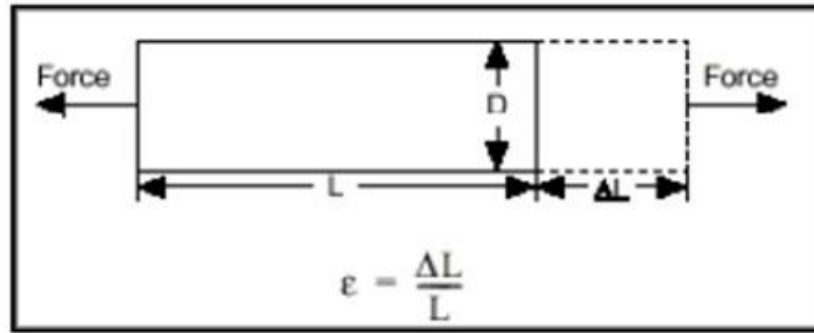
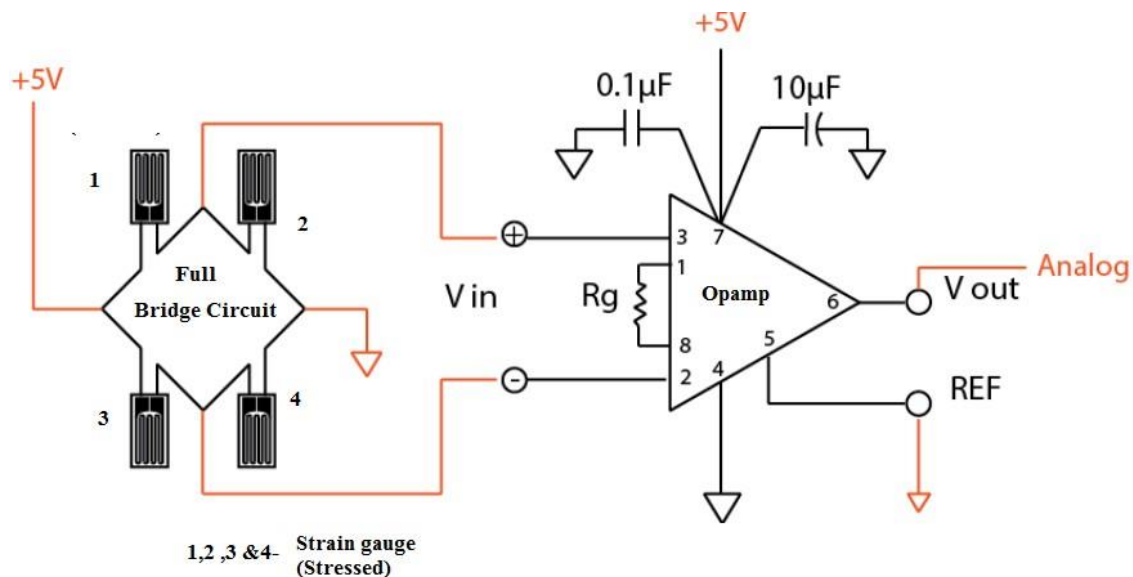

Figure 1. Strain measurement
Figure 2. Full- Bridge Strain gauge circuit
**Theory:** Strain is the amount of deformation of a body due to an applied force. More specifically, strain ( $\epsilon$ ) is defined as the fractional change in length, Strain can be positive (tensile) or negative (compressive). Although dimensionless, strain is sometimes expressed in units such as in./in. or mm/mm. In practice, the magnitude of measured strain is very small. Therefore, strain is often expressed as microstrain ( $\mu\epsilon$ ), which is  $\epsilon \times 10^{-6}$ . When a bar is strained with a uniaxial force, as in Figure 1, a phenomenon known as Poisson Strain causes the girth of the bar,  $D$ , to contract in the transverse, or perpendicular, direction. The magnitude of this transverse contraction is a material property indicated by its Poisson's Ratio. The Poisson's Ratio  $n$  of a material is defined as the negative ratio of the strain in the transverse direction (perpendicular to the force) to the strain in the axial direction (parallel to the force), or  $n = \epsilon_T/\epsilon$ . The most widely used gage is the bonded metallic strain gage. The metallic strain gauge consists of a very fine wire or, more commonly, metallic foil arranged in a grid pattern. The grid pattern maximizes the amount of metallic wire or foil subject to strain in the parallel direction (Figure 2). The cross-sectional area of the grid is minimized to reduce the effect of shear strain and Poisson Strain. The grid is bonded to a thin backing, called the carrier, which is attached directly to the test specimen.